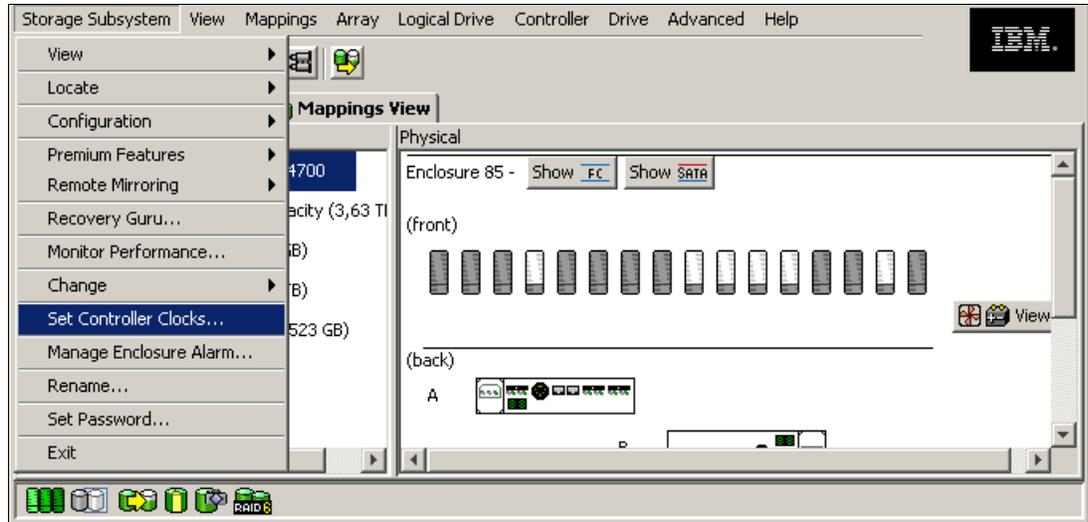

Figure 5-39 Setting the controller clock
- Because the DS4000 storage server stores its own event log, synchronize the controller clocks with the time of all the host systems accessing it. This improves problem determination procedures. If you have not already set the clocks on the storage servers, set them now. Be sure that your local system is working using the correct time. Then click **Storage Subsystem** → **Set Controller Clock** (Figure 5-39).